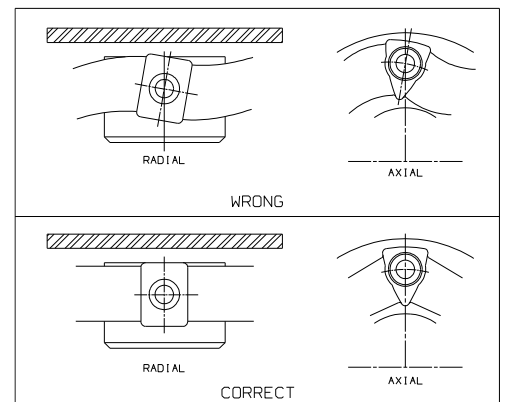

Figure 4
Note 1: Refer to Figure 4 and ensure the aluminum inserts or bushings in the element are not distorted or twisted in any way. **If the inserts are twisting the rubber portion of the element, the coupling will fail prematurely.**
8. Once the axial screws have been tightened, rotate the elements and floating shaft and tighten each of the radial screws until they are snug. When tightening the screws to their prescribed torques, it will be necessary to prevent twisting of the element (figure 4) by restraining the insert with a proper tool that will not score or damage the rubber coating on the insert. Repeat this process to tighten each of the screws to roughly one half the torque value listed in Table 1. Finally, repeat once the procedure once again tightening each screw to the designated full torque amount.
b. When tightening the screws make sure the aluminum inserts or rubber arms are not twisted (see figure 4). To reduce the friction between the screw head and aluminum insert, place a small amount of a non hydrocarbon based lubricant under the bolt heads prior to tightening. If the inserts are twisted, the radial inserts may not seat properly on the cylindrical hub or spacer shaft. If this happens the hub will not carry the load with the full surface of the insert. When this happens, the other radial screws can loosen and the coupling will fail.